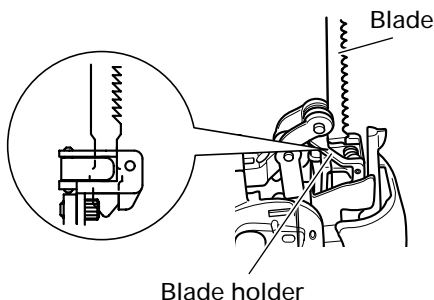

Fig. 4
- Confirm the protrusions of blade inserted to the blade holder surely. (Fig. 4)